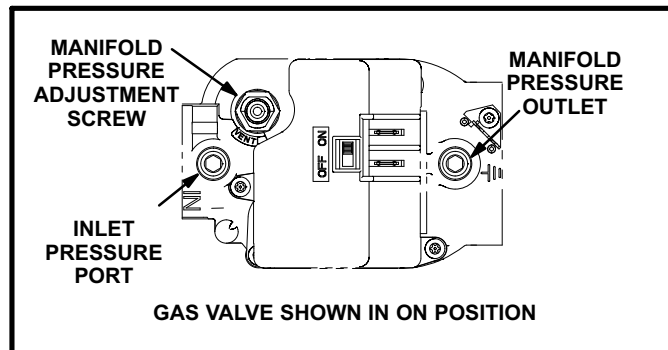

FIGURE 64
Gas Valve Operation (Figure 64)
- 6 - Move gas valve switch to **OFF**. See figure 64.
- 8 - Move gas valve switch to **ON**. See figure 64.
When testing supply gas pressure, use the 1/8" N.P.T. plugged tap or pressure post located on the gas valve to facilitate test gauge connection. See figure 64. Check gas line pressure with unit firing at maximum rate. Low pressure may result in erratic operation or underfire. High pressure can result in permanent damage to gas valve or overfire.